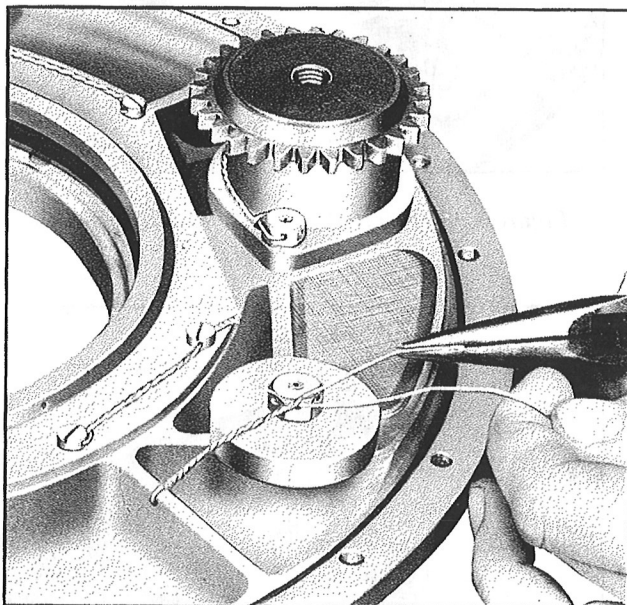

Figure 155—Installation of Oil Pump
*Step 17.*—Using a 1/2" socket wrench, tighten the balance capscrew and safety with .032" wire, as shown in Figure 155.